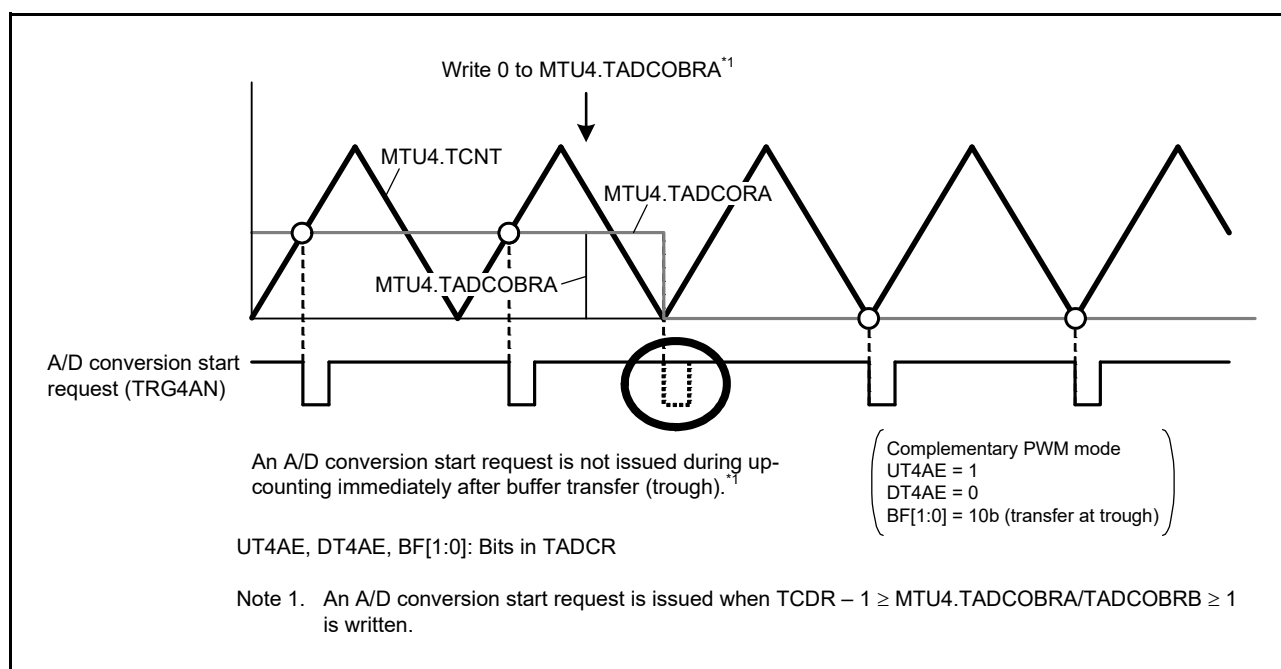

Figure 24.152 A/D Conversion Start Request When 0 is Written to MTU4.TADCOBRA
- When data is transferred from a buffer register at the trough of the MTU4.TCNT (MTU7.TCNT) counter while the MTU4.TADCOBRA and MTU4.TADCOBRB (MTU7.TADCOBRA and MTU7.TADCOBRB) registers are set to 0 and the UT4AE and UT4BE (UT7AE and UT7BE) bits in the MTU4.TADCR (MTU7.TADCR) register are set to 1, no A/D conversion start request is issued during up-counting immediately after transfer. Refer to Figure 24.152.